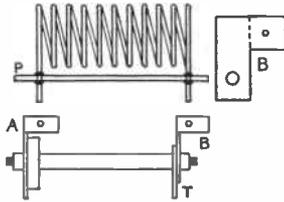

Fig. 3—The coil fitting
In the writer's case, a soldering strip projected from the rotor section, and this was bent round as in (A) Fig. 3. For the stator section, a piece of aluminium sheet was cut out as in (B) (enlarged) and bent to shape. This, with a soldering tag (T) was fixed to the condenser by the nut provided on the condenser. Small holes to provide sockets for the coil will be seen in both (A) and (B).
If plug-in coils are used, then these should be mounted on polystyrene or Paxolin strips to keep them rigid and prevent damage. The ends of the coil should project about $\frac{1}{2}$ in. A blob of solder should first be put on the ends, then the strip (already bored) put in position, and another touch of solder used to secure the two ends. See (P) in Fig. 3.